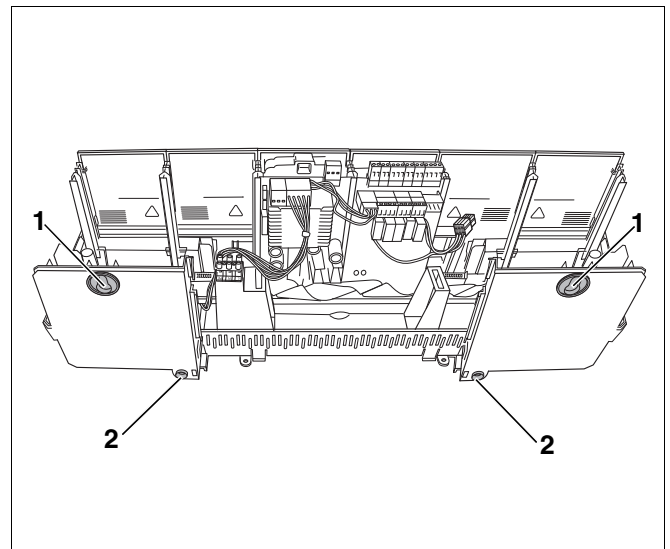

Fig. 3 Control unit back, fixings
- Push out both upper fixing eyes on the control unit with a screwdriver (→ Fig. 3, [1]).
- Secure the control unit to the wall with the four screws supplied (→ Fig. 3, [1] + [2]).